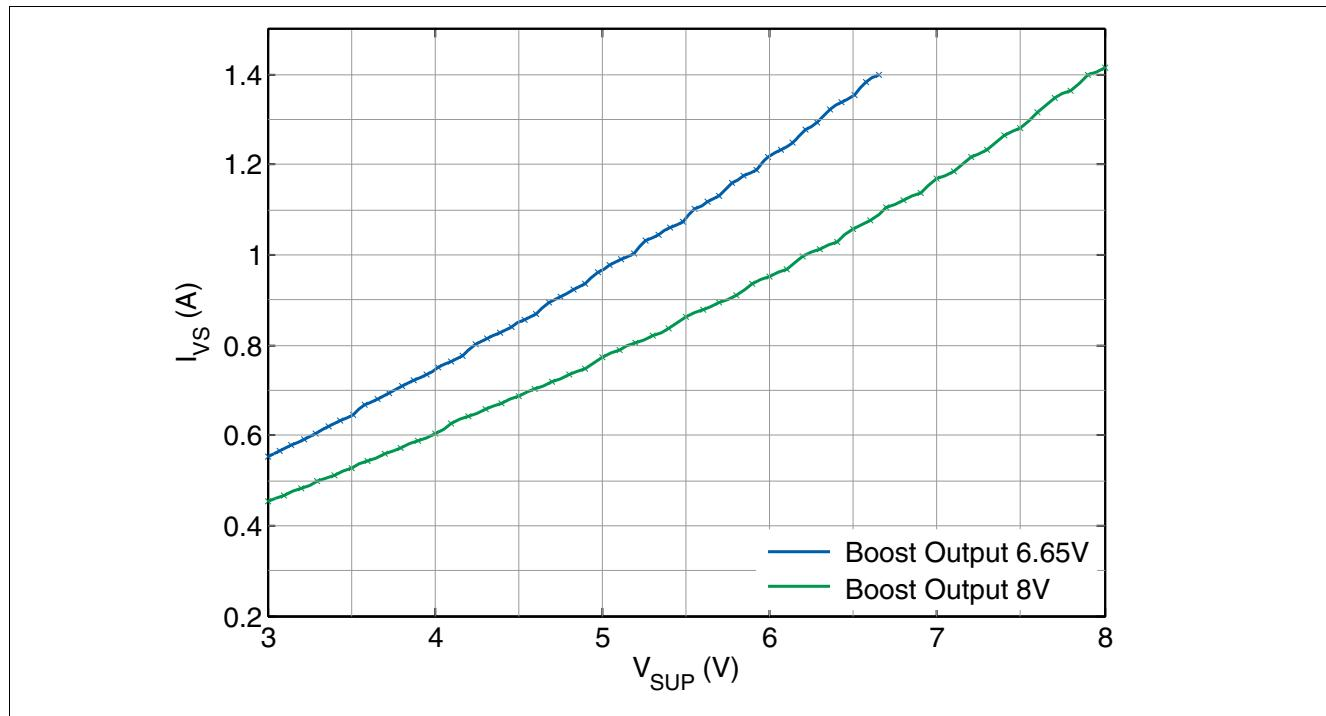

Figure 14 Maximum DCDC boost current capability versus VSUP.
- 3) Values verified in characterization with boost converter specified in Chapter 15.1. Not subject to production test; specified by design. Refer to Figure 14 for additional information.
Note: **Figure 14** is based on simulation results (specified by design), with boost converter external components specified in Chapter 15.1.